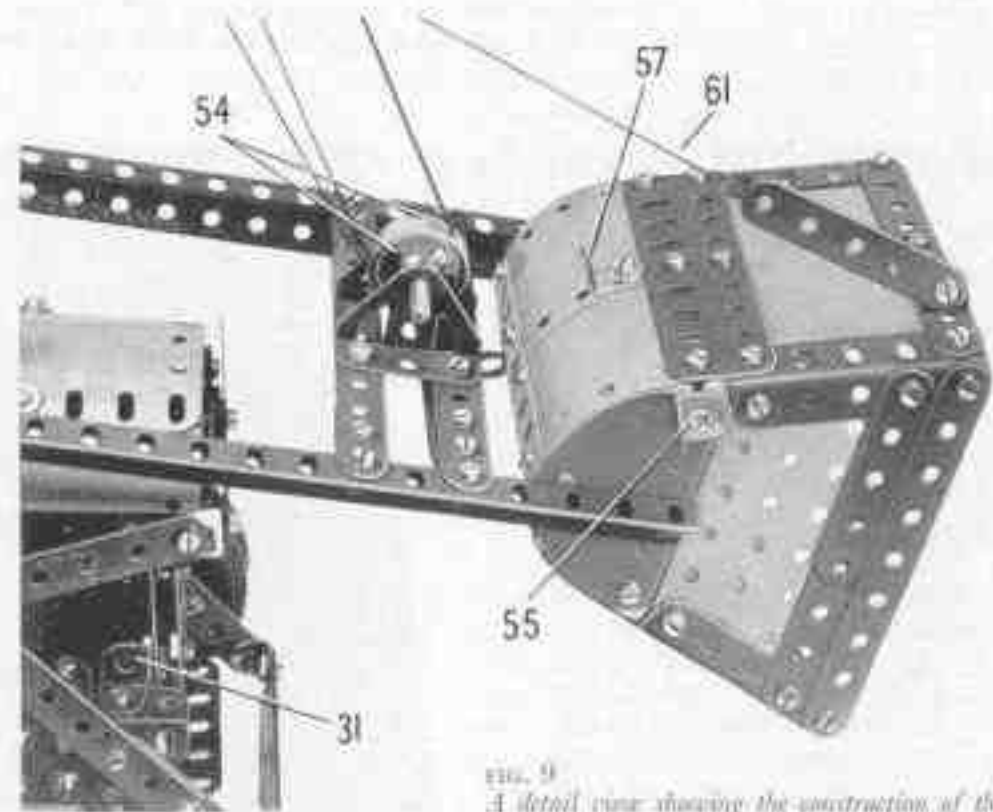

FIG. 9
Each side of the shovel is formed by a 3" × 1½" Flat Plate edged by two 2½" Angle Girders, to which are bolted a 4½" Strip and two 2½" Strips. A Semi-Circular Plate is connected to the 3" × 1½" Flat Plate by two Fishplates. The sides are connected by a 4½" × 2½" Flexible Plate and a 4½" × 2½" Flat Plate bolted between the 2½" Angle Girders. Each of these Plates is strengthened at the top by a 4½" Strip, and along its lower edge a 4½" Flat Girder is bolted. Four 1½" radius Curved Plates are bolted to the Flat Girders and are connected to the Semi-Circular Plates by Angle Brackets. A stop (55) (Fig. 9) on each side is formed by an Angle Bracket. These stops control the angle of the shovel when the arm is lowered. The shovel pivots freely on ½" Bolts held by lock-nuts in the Semi-Circular Plates.
After discharging its contents the shovel is returned to its working angle automatically by a Cord (61) (Fig. 9). This is tied to the top of the jib and to a  $\frac{1}{4}$ " Strip, lock-mitted to an Angle Bracket bolted to the shovel. The length of the Cord (61) is adjusted so that it is taut when the shovel arm is fully lowered and the lower face of the shovel rests on the ground. While in this position the Angle Bracket (57) is adjusted so that it engages the Fishplate of the catch (56).